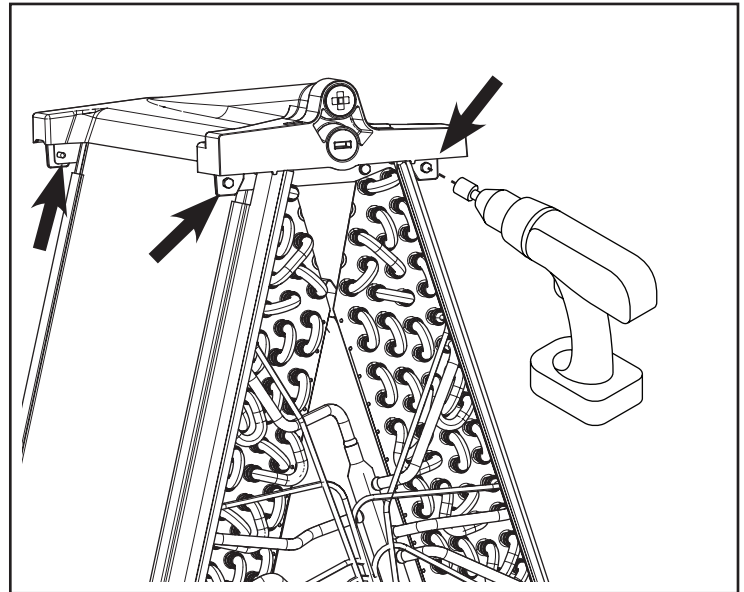

Figure 29 – Remove upflow drain pan
10. Remove the upflow drain pan by removing the four screws attaching it to the coil (See Figure 29). Keep drain pan and four screws.